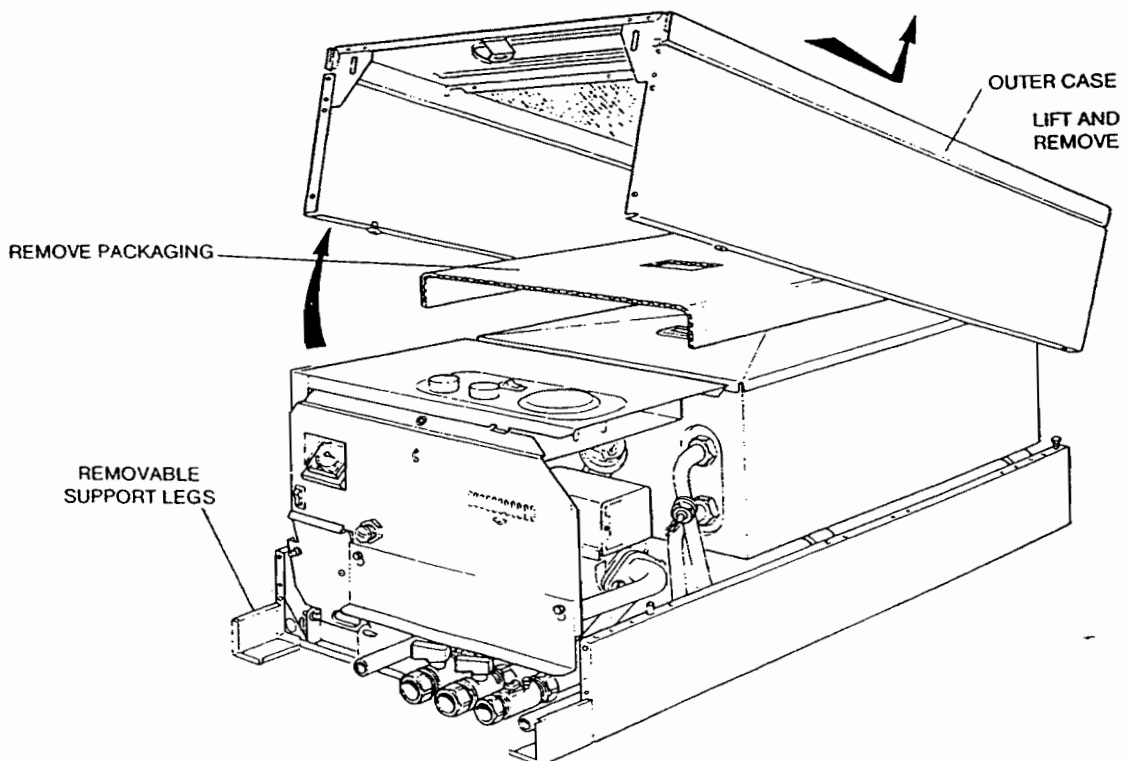

Fig. 13
Note: Two removable support legs are fitted to the base of the boiler to protect the pipework, care must still be taken when handling the combination boiler to prevent damage to pipework situated at the base of the appliance (see Fig.13)
- b) Remove the outer casing as follows; undo the securing screw at the base of the outer casing, pull the base of the casing forward approx 50mm and lift off the supporting top hooks. (See Fig. 13). Place the casing safely to one side. There is a transit packing piece of cardboard under the casing, this must be removed before installation.